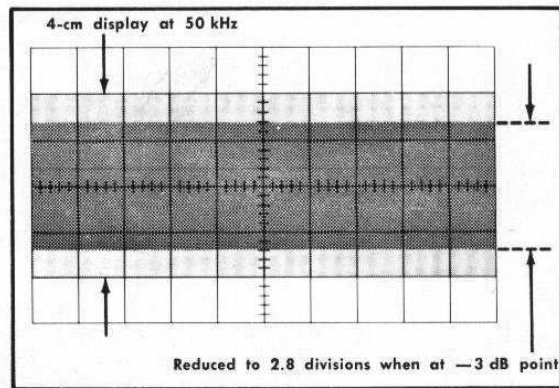

Fig. 5-6. Double exposure to show CRT display when checking the frequency response.
- Increase the frequency of the Constant Amplitude Signal Generator until the display amplitude has decreased to 2.8 cm. See Fig. 5-6. (-3 dB's)